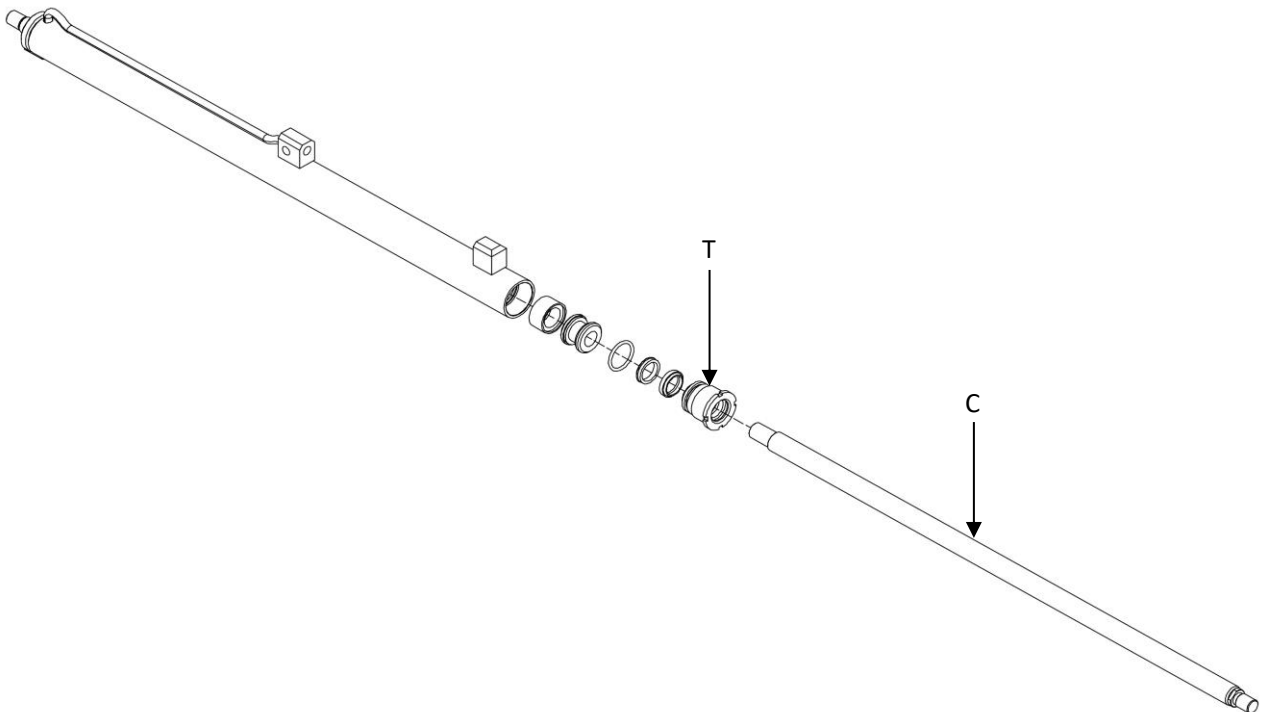

Figure 93
8. Use *Figure 93* as a guide.